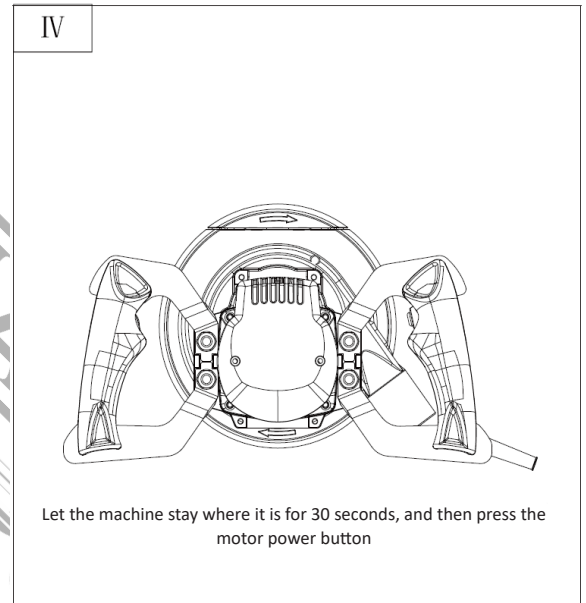

Fig. 4
Step 4: As shown in figure 4, once you stop working, remove your hands from the handle and let the machine stay where it is for 30 seconds. Afterwards, press the motor power button after the dust inside of the anti-dust cover has been properly collected and cleaned.